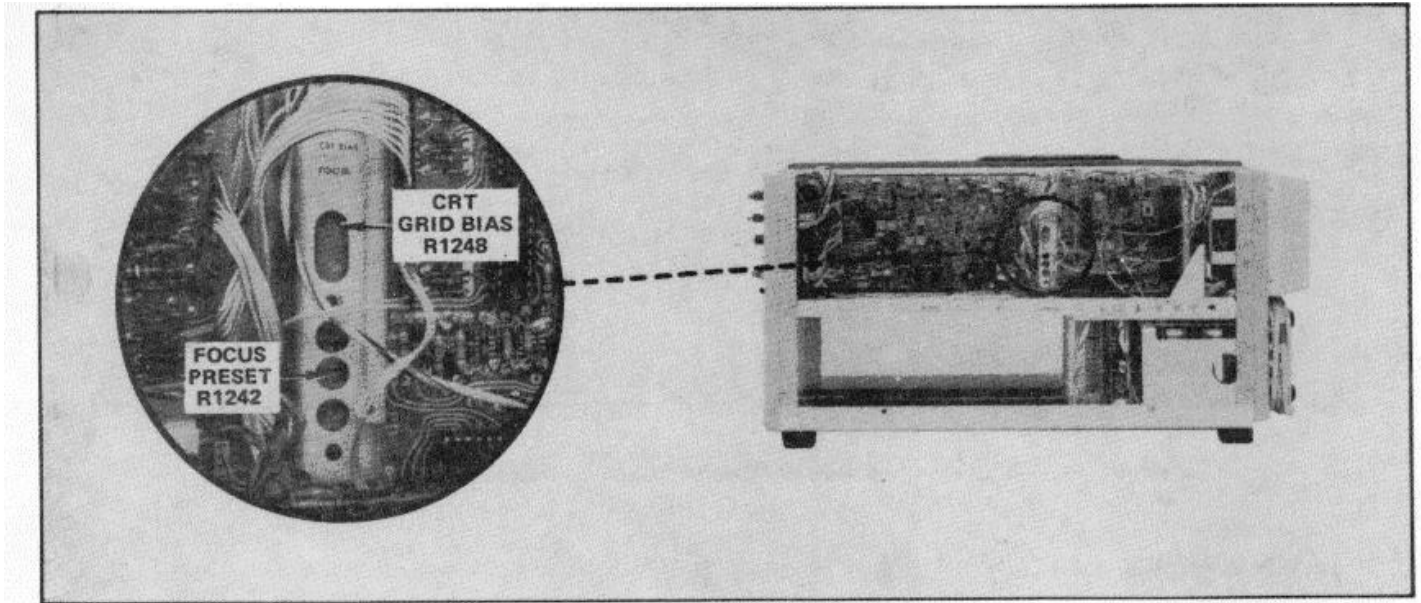

Figure 5-4. Location of adjustments in High-Voltage cover.
- f. ADJUST-CRT Grid Bias adjustment R1248 (see Figure 5-4) until the trace on the 7623A just disappears
- f. ADJUST-Focus Preset R1242 (see Figure 5-4) and Astigmatism adjustment R1274 (see Figure 8-18) for the best overall focus.